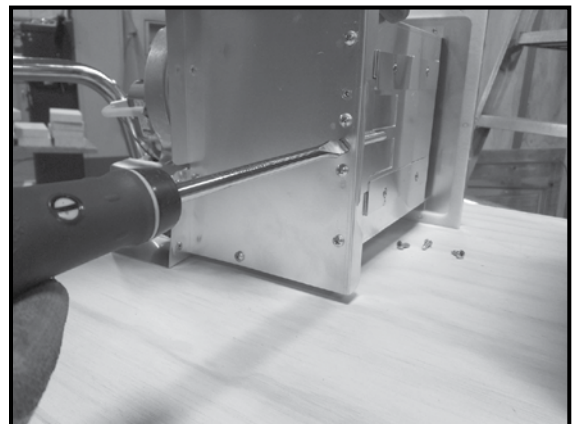

Figure 3.15
8. To open the baffle, turn the adjustment bolt counter clockwise. See Figure 3.15.